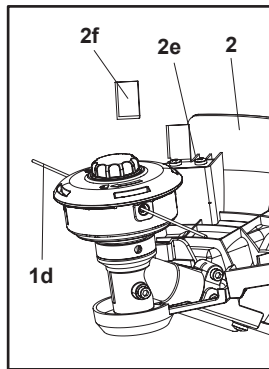

Fig. 29
The guard (2) protects the operator against thrown objects during operation. It is equipped with a knife (2e) that cuts the trimming lines (1d) (Fig. 29).